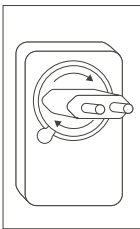

FIG.10
3. Twist the adapter clockwise to secure it (Fig.10)